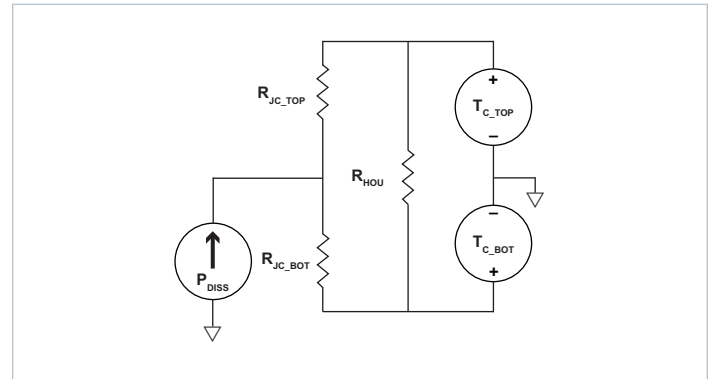
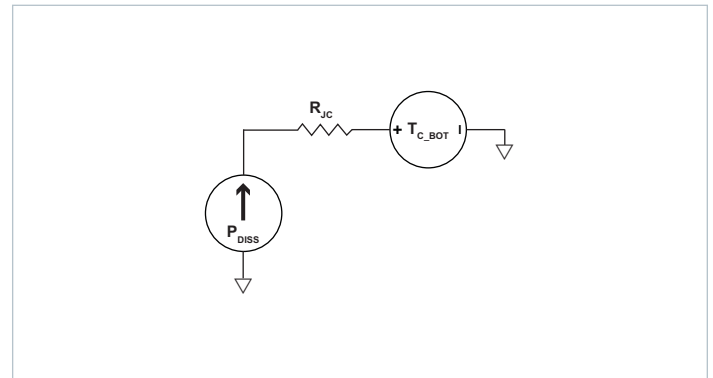

Figure 24 – Double sided cooling VIA thermal model
Figure 25 – Single-sided cooling VIA thermal model
to simplify the thermal solution into a roughly equivalent circuit where power dissipation is modeled as a current source, isothermal surface temperatures are represented as voltage sources and the thermal resistances are represented as resistors. Figure 24 shows the "thermal circuit" for the VIA module.
- Single side cooling: the model of Figure 24 can be simplified by calculating the parallel resistor network and using one simple thermal resistance number and the internal power dissipation curves; an example for bottom side cooling only is shown in Figure 25.